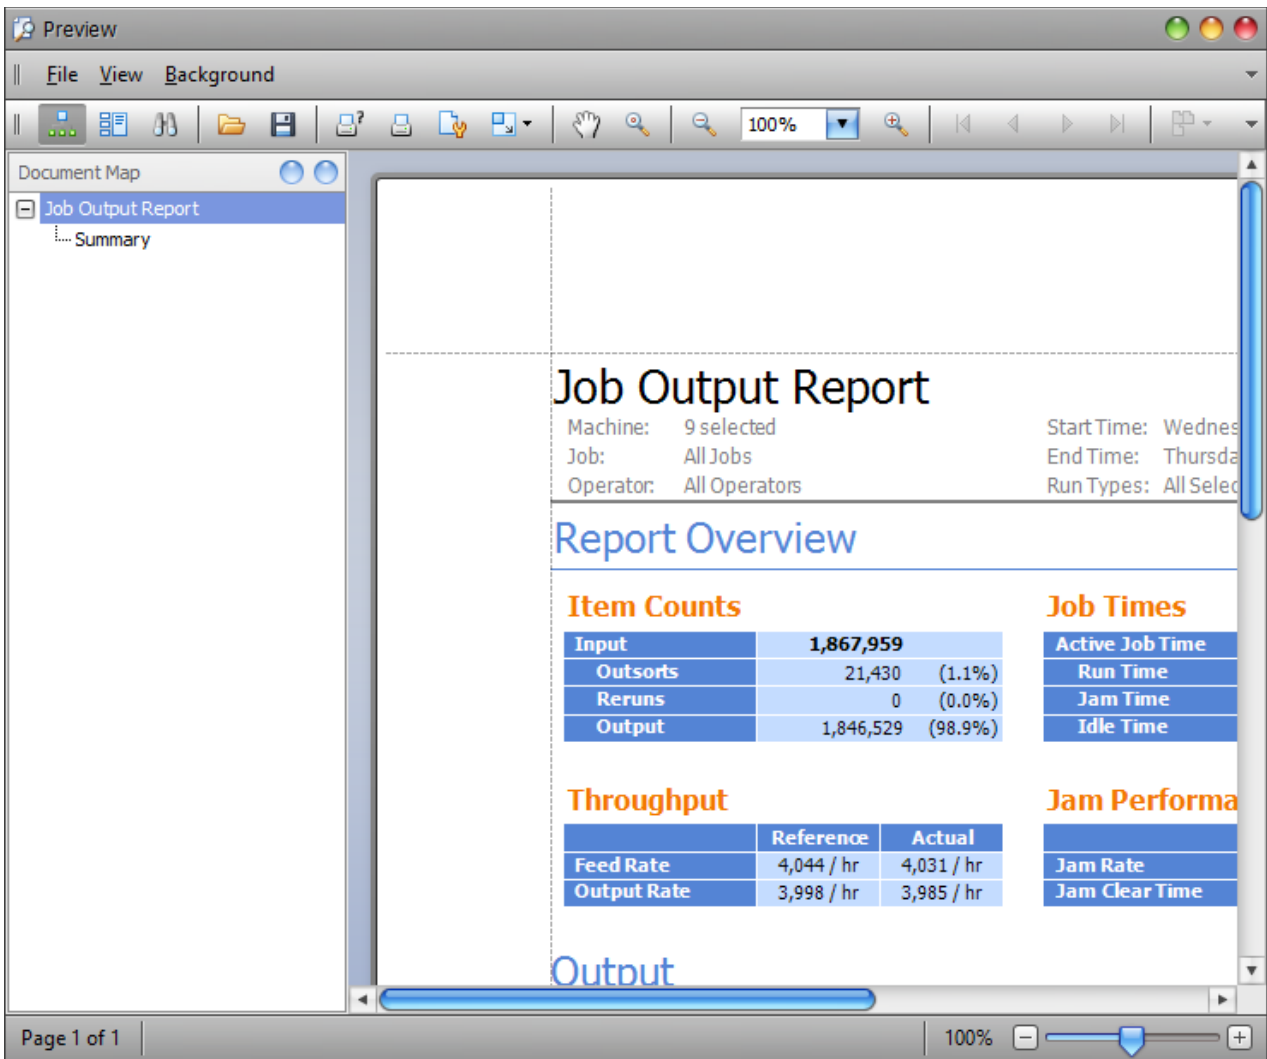

Figure 5-46: Print preview window
- The Preview window opens displaying the selected criteria (Figure 5-46).